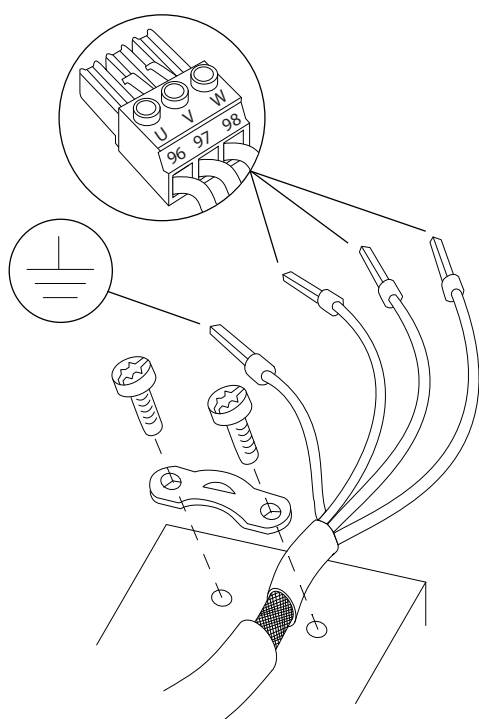

Figure 4.5 Motor Connection
- Connect ground wire to the nearest grounding terminal in accordance with grounding instructions provided in 4.3 Grounding, see Figure 4.5.
- Connect the 3-phase motor wiring to terminals 96 (U), 97 (V), and 98 (W), see Figure 4.5.